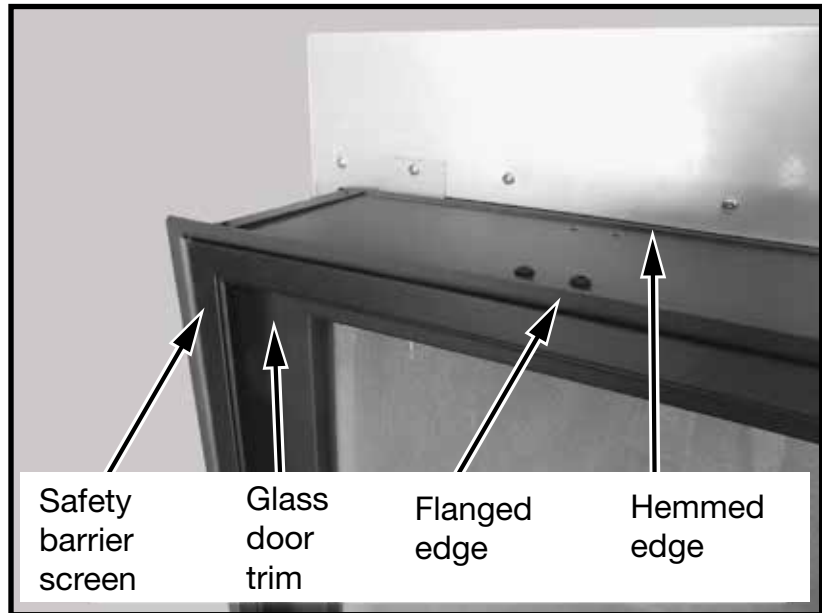

Figure 21: Lintel and trim.
1. The adjustable lintel assembly has two orientations for desired finishing. The flanged edge and the hemmed edge (Figure 21). The lintel comes factory installed with the flange edge out. If the desired edge is different from the factory setting, use the following steps to change it.